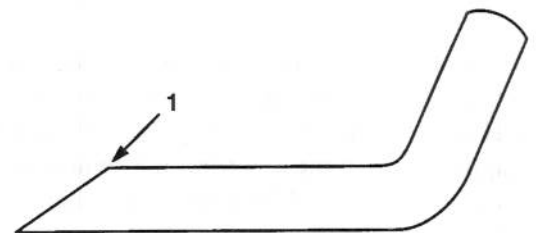

Figure 14
3. Examine the cutting edges of all blades. Sharpen the cutting edges if they are dull or nicked. Sharpen only the top of the cutting edge and maintain the original cutting angle to make sure of sharpness (Fig. 14). The blade will remain balanced if same amount of metal is removed from both cutting edges.
6. Note measurement attained at "A", rotate blades to the "B" position (Fig. 14), measure distance of all blades to level surface and note dimensions (Fig. 15).
7. Rotate blades to the "C" position, measure and note distance measured (Fig. 14, 15).